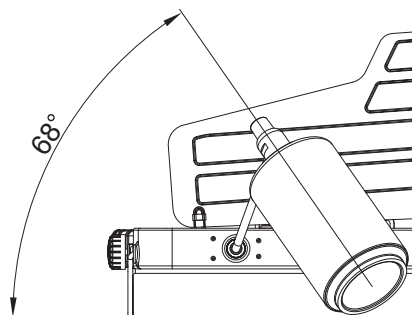

Figure 6
3. Spoon several drops of solution, or use squirt bottle, at the LP gas tank to regulator connection (Figure 6 & 7).